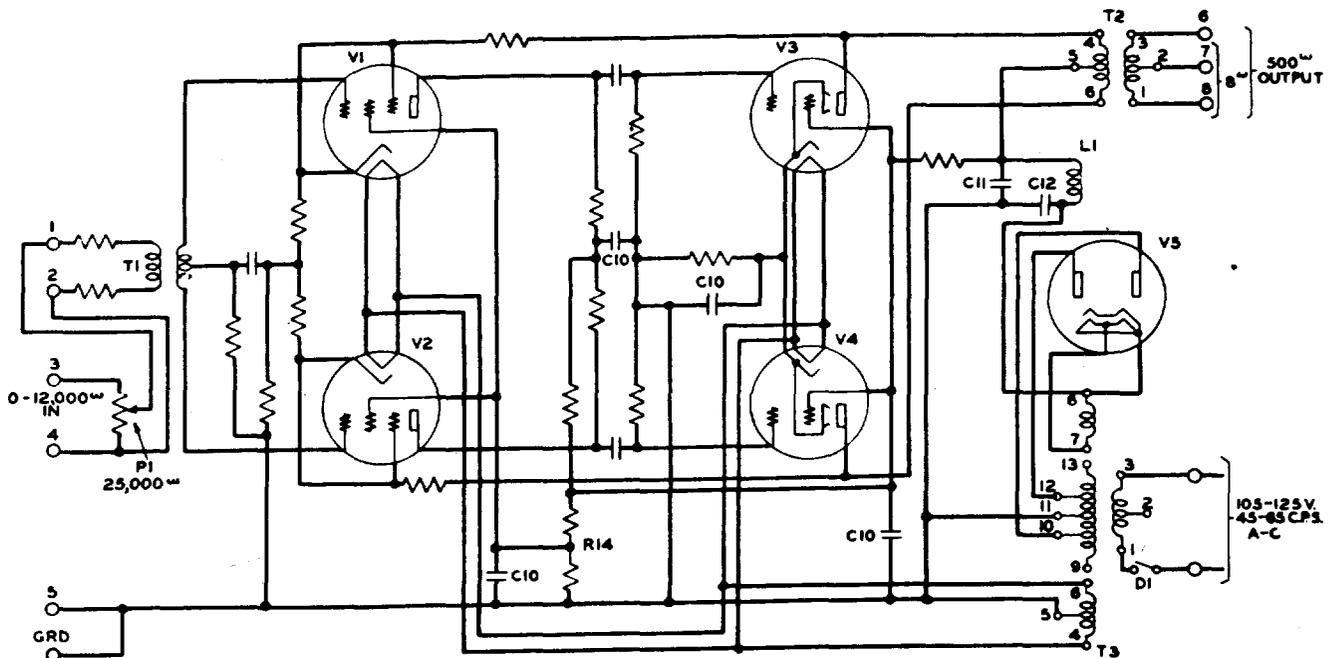

Fig. 1 - 94D Amplifier Schematic
**2.01** The simplified schematic of the 94D amplifier is shown in Fig. 1. More complete drawings are shown in the instruction bulletin